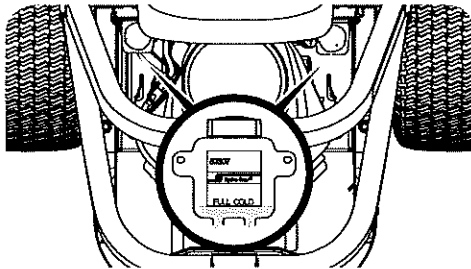

Figure 35
1. Clean the reservoir cap and the area around the cap to prevent debris from contaminating the transmission oil. See Figure 35.
2. Turn the reservoir cap counter-clockwise to remove, then check the oil level in the reservoir. Oil should be visible at the bottom of the cup, but the oil level must **NOT** be above the "FULL COLD" line. See Figure 35. **DO NOT FILL THE RESERVOIR.**
1. Remove the cap from the transmission oil expansion reservoir. See Figure 35.